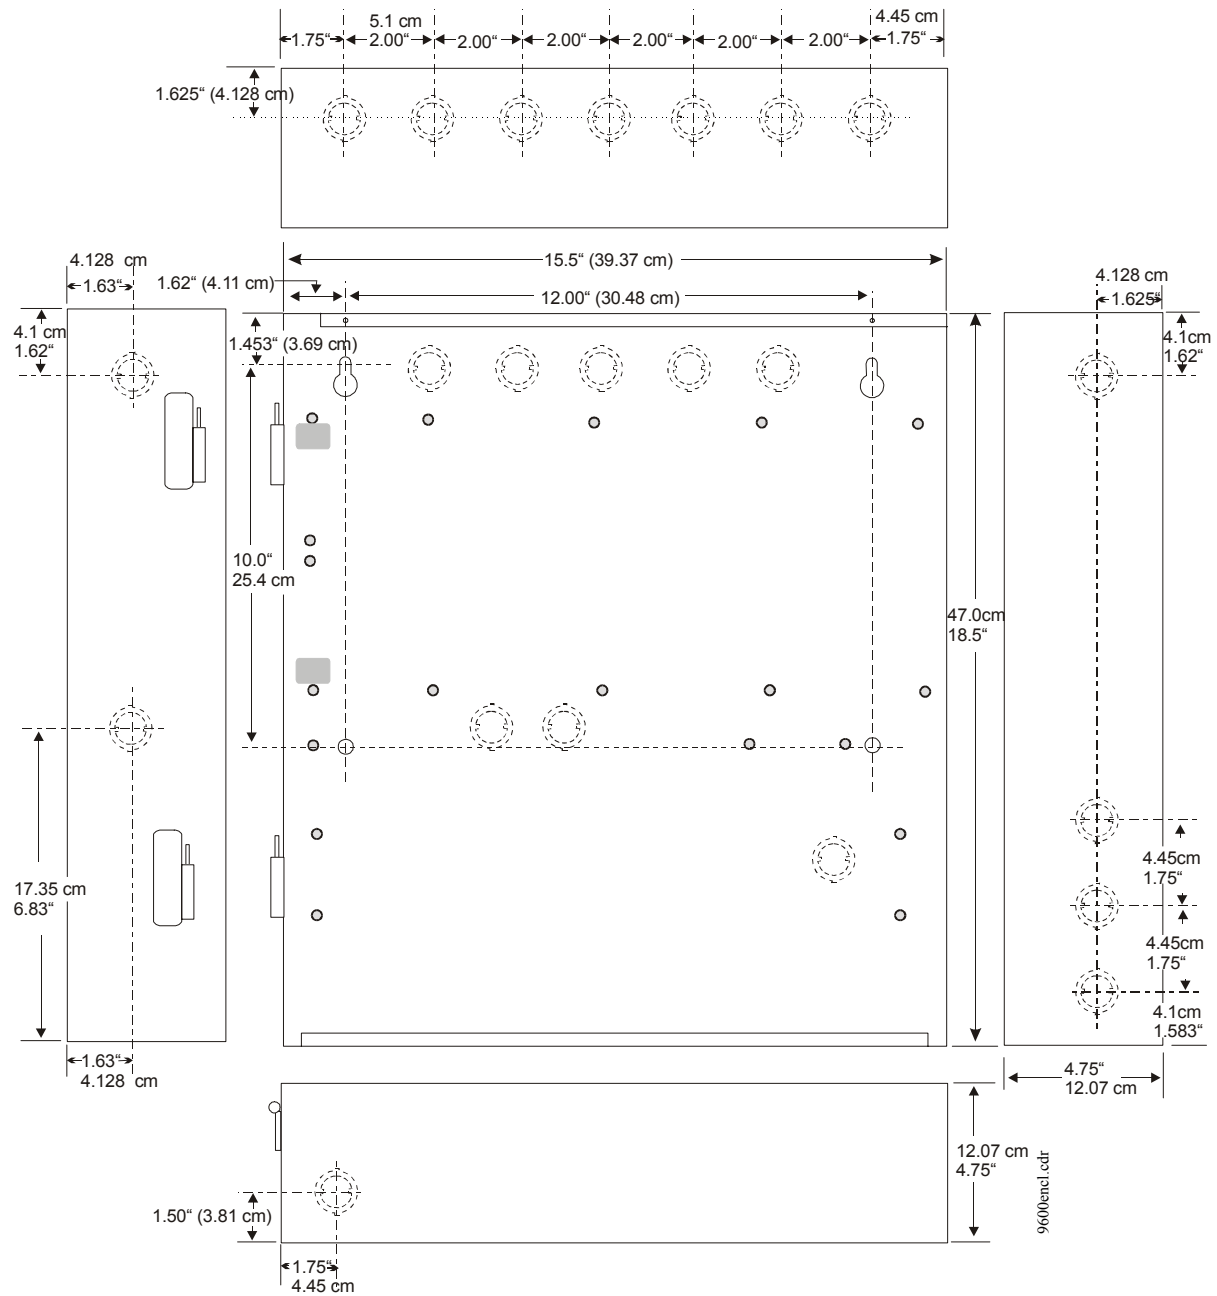

Figure 2.3 FireWarden-100 Cabinet Mounting
- Mark and predrill holes in the wall for the top two keyhole mounting bolts using the dimensions illustrated in Figure 2.3 on page 25